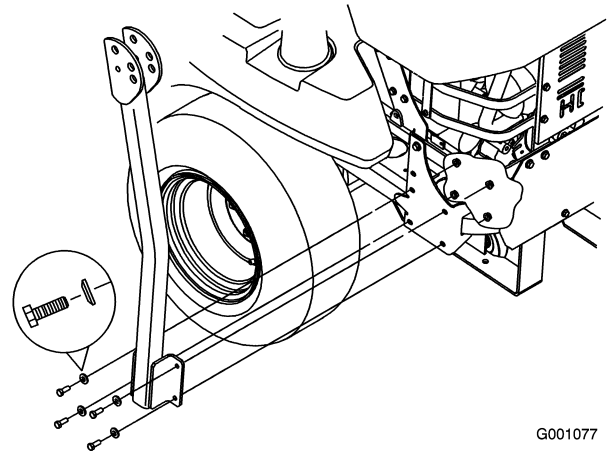

Figure 6
1. Loosely install the right and left roll bar section to the frame, with 8 bolts (3/8 x 1 inch), 8 curved washers, and 8 flange nuts (3/8 inch) (Figure 6).